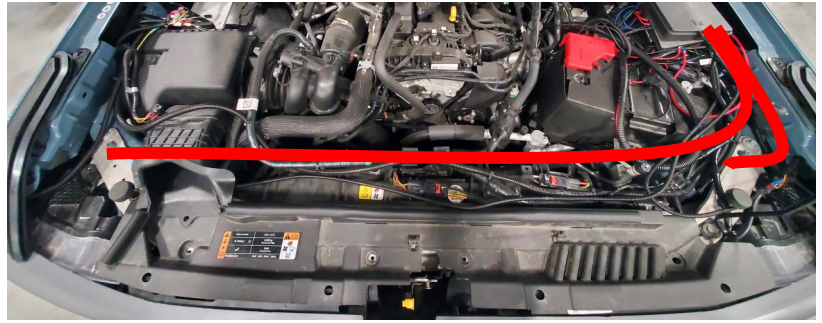

Figure 14.
**11.** Route the longer lead from the 529034 harness over to the passenger side of the engine bay above the passenger headlight. Apply a zip tie every 12-16 inches to the factory wire bundle. Near the end of the run route underneath the air intake. See figure 14 for more detail.